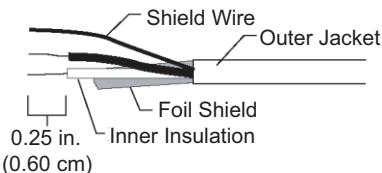

Fig. 8 — Wiring Equipment Touch Interface to UC Open XP Controller
- Partially cut, then bend and pull off the outer jacket of the cable. Do not nick the inner insulation. See Fig. 8 for the wiring equipment touch interface to controller.